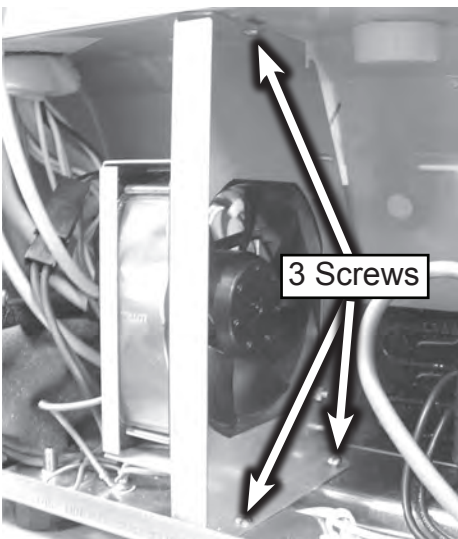

Figure 2
2. Remove three screws securing the condenser fan assembly to the cabinet, see figure 2.